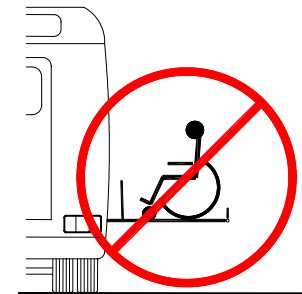

FIGURE 2-2: RICON RECOMMENDS PASSENGERS FACE OUTBOARD WHEN RIDING LIFT PLATFORM
- Refer to **Figure 2-2**. Due to variations in the size and configuration of mobility aids, for maximum safety, Ricon recommends that passengers always face outward when riding the lift platform.